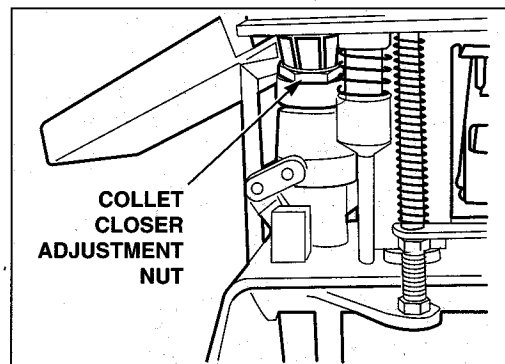

Figure 51
2. Using a wrench, turn the collet closer adjustment nut, Figure 51, either counterclockwise or clockwise.